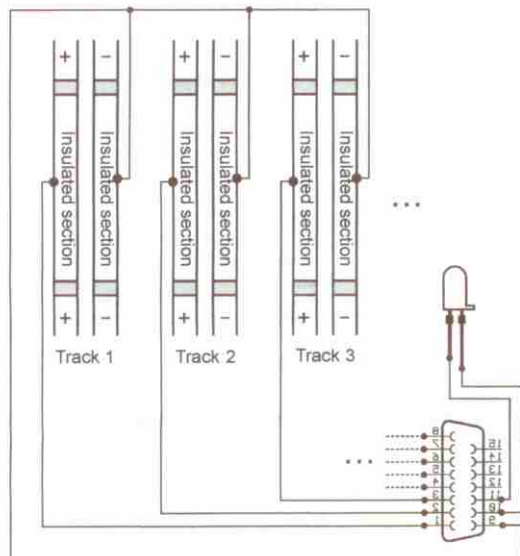

Figure 1: Insulated sections.
**Contact sensors** consist of insulated sections of the track, connected as shown in fig. 1. Insulation should be longer than ordinary slot cars brushes length.
For external state signalization connect the supplied LED as shown in figure 1.